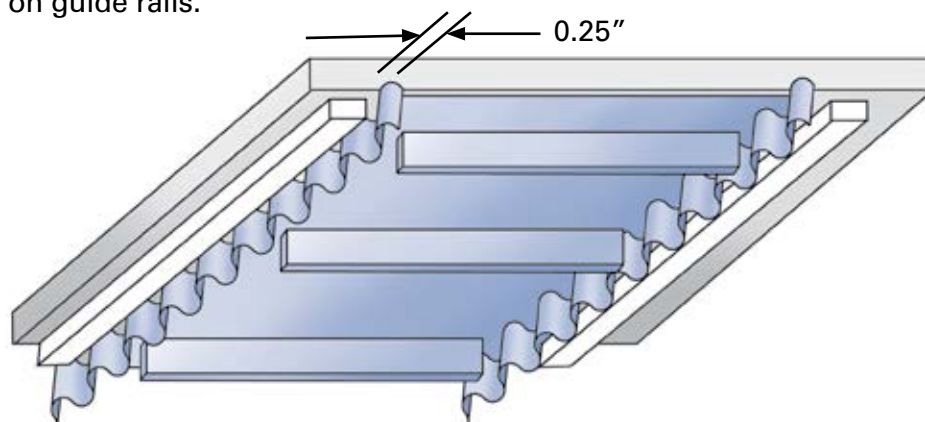

Figure 15
- Recommend continuous support rails: contacting the base belt and not the top of the cleats, arranged parallel to the belt length, and made of UHMW-PE or acetal (POM). See Figure 15.
- For clarification see Figure 11 for cleats and Figure 15 for corrugated belt sidewalls.